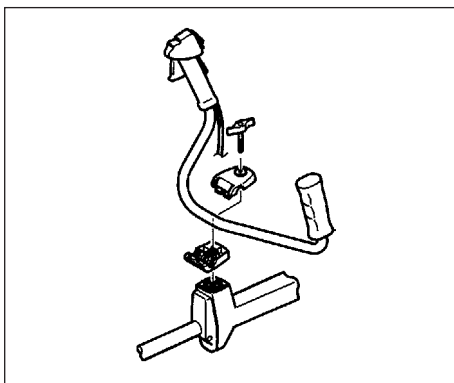

Fig.1-3C
#### BEMÆRK for CG40EYA (TP) (Fig. 1-3C, 3D)